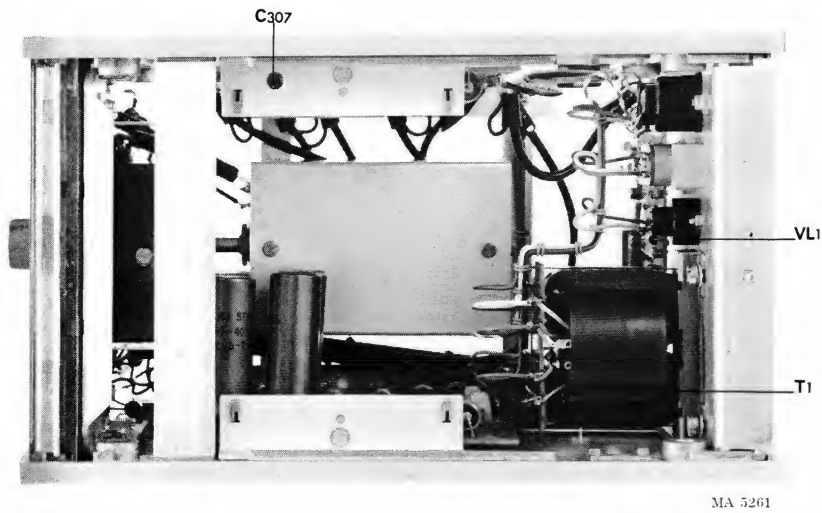

Fig. 15 Top view
- Adjust the pointer deflection to exactly 100 scale divisions by means of C307. C307 is accessible from the top of the instrument after removal of the top panel (Fig. 15) Trimmer C307 serves for fine adjustment. If its control range is not sufficient for adjustment to 100 scale divisions, circuit capacitance Cx on printed circuit board U3 should be corrected by reducing or extending the soldered-in wire.